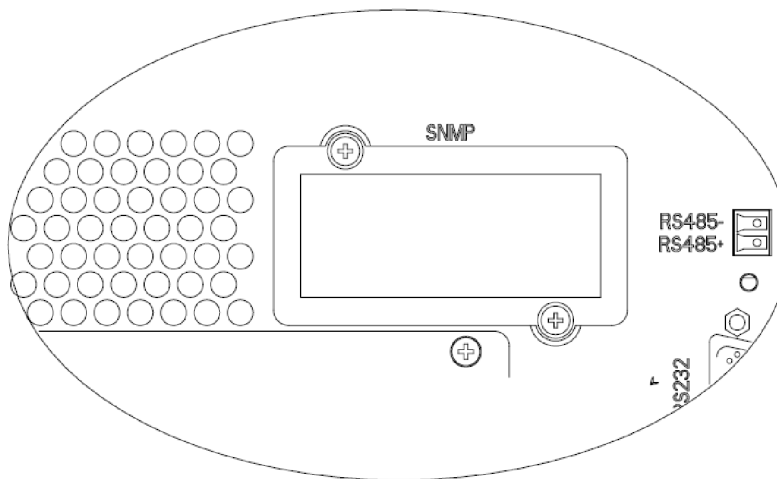

Fig 4-1: SNMP card
1. Remove the two screws of intelligent slot (see Fig. 4-1).